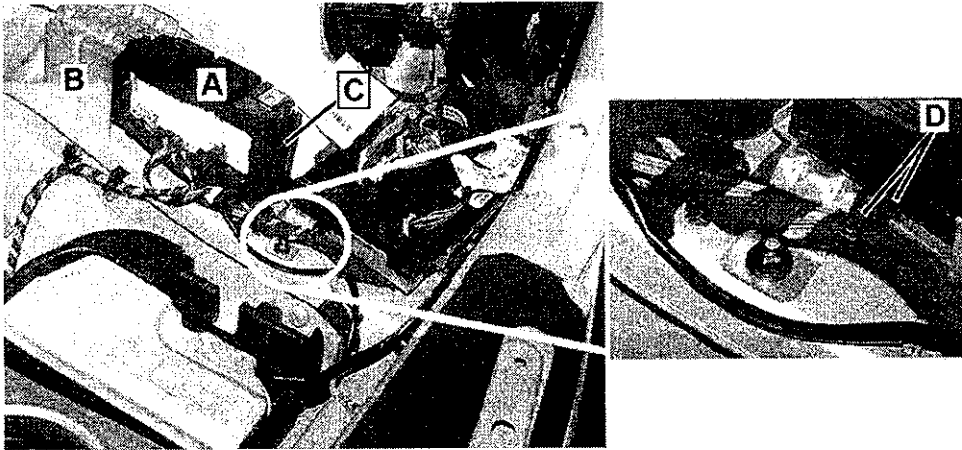

Figure 3 (shown on diesel vehicle with cargo compartment package [942])
7. Insert tail gate closing control module into bracket (A, Figure 3) and slide assembly into mounting console (B) on frame rail (Figure 3).
On vehicles with cargo compartment package (code 942), install bracket (A, Figure 3) between mounting console (B) and cargo frame rail bracket (C).
9. Attach cable tie (arrow, Figure 4) to SAM bracket then secure wiring harness to SAM bracket using cable tie (D, Figure 3).